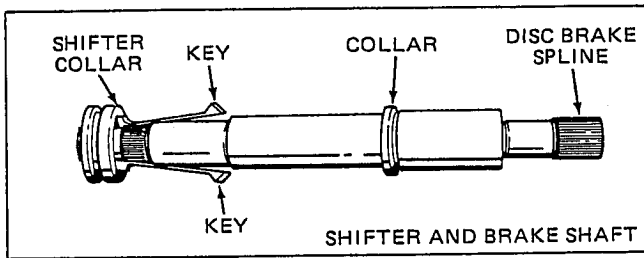

Figure 3-28
2. Grease both keyways and slide keys and collar on output and brakeshaft as shown in Figure 3-28. Thick side of collar MUST face shoulder on shaft as shown in Figure 3-28.